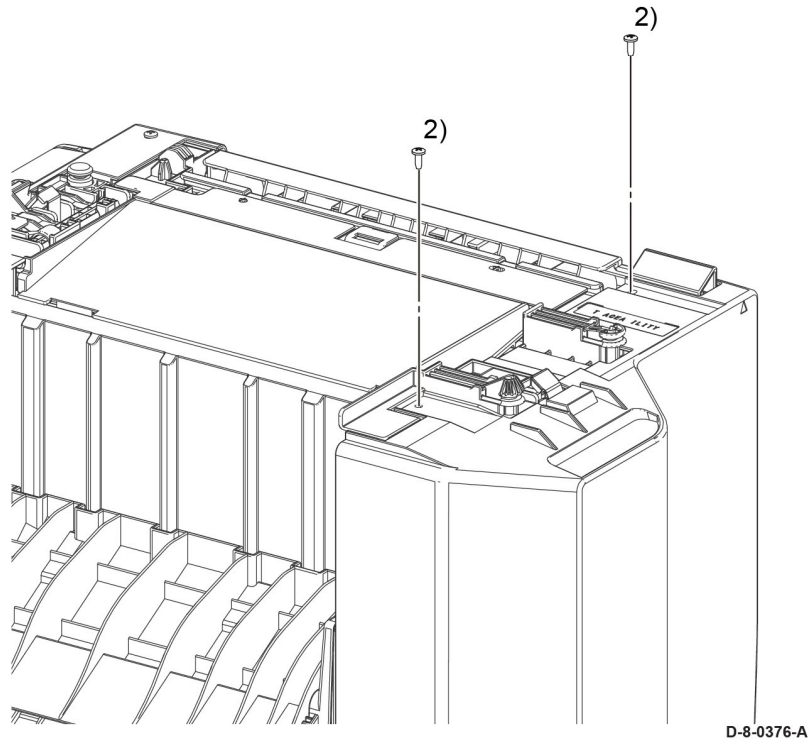

Figure 1 Removing bottom screws
2. Remove two screws, ST20, Figure 1.